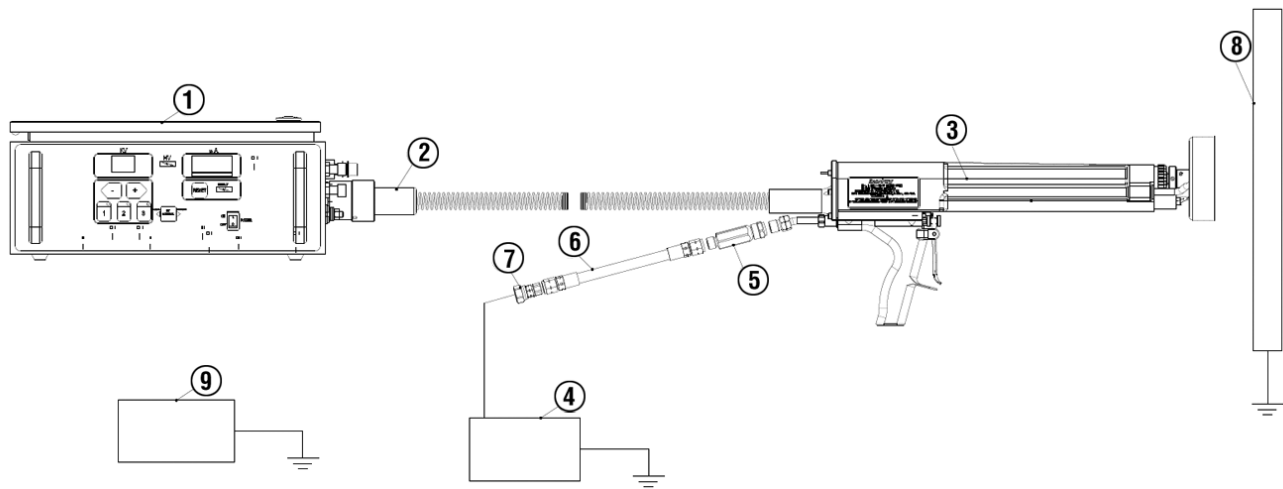
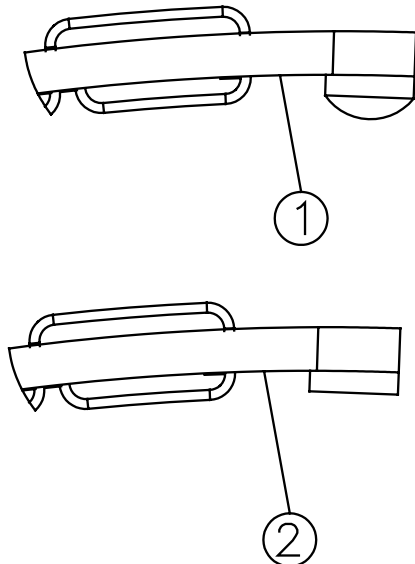

Figure 4: Equipment Installation Diagram
Figure 10: Brush Tip New and Worn
(Refer to Figure 4)
Install the fluid filter (Item 5) to the applicator, then to the fluid delivery hose. Attach one end of the fluid hose to the adapter (Item 6) (Refer to figure 4). This adapter has a 3/8-18 NPSM (F) for attachment to a suitable fluid source. To meet various length requirements, the hose fitting on one end has not been attached.
EQUIPMENT INSTALLATION DIAGRAM (Figure 4)
The brush should normally have a slight curve to the arm. The more pressure applied the lesser the curve (see Figure 4). The tip of the brush assembly must be inspected prior to each use for wear. When one-half (1/2) of the plastic tip is worn away the brush assembly should be replaced (see Figure 10).
BRUSH TIP NEW AND WORN (Figure 10)